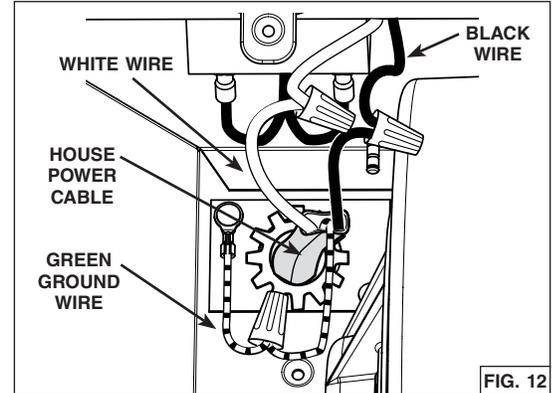

FIG. 12
1. Using appropriate wire nuts (not included), connect house power cable to power module wiring: BLACK to BLACK, WHITE to WHITE and GREEN or bare wire to GREEN ground wire (Fig. 12).